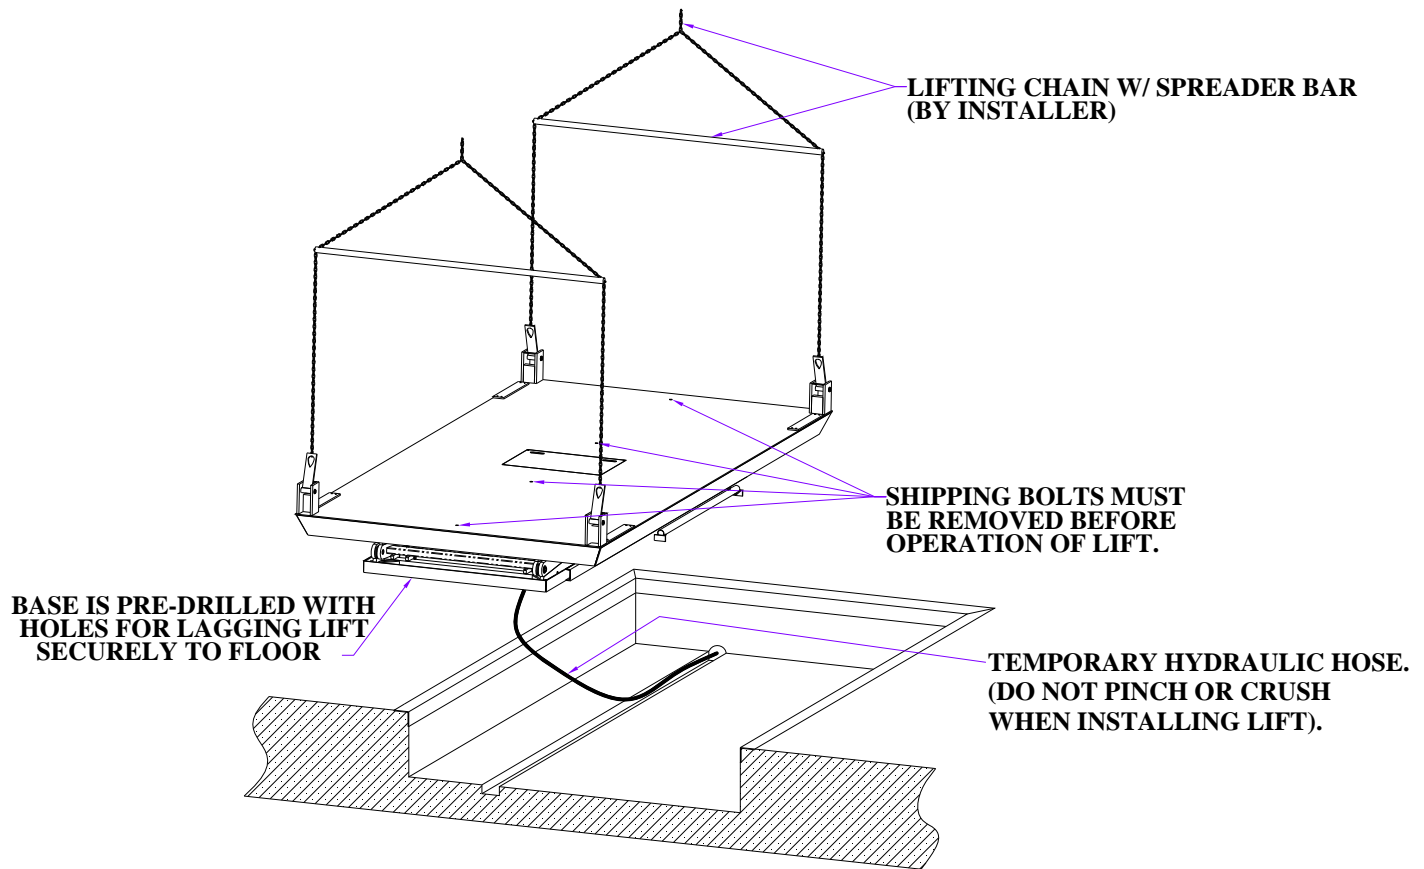

Figure 15 Generic Dwg - Lifting and Handling
C. LOWERING and INSTALLING THE LIFT (Reference Figure 15)
1. Using $\frac{3}{4}$ " 10 UNC eyebolts and a chain spreader, place the lift into the pit as illustrated in **Figure 15** using the lifting eye provisions included (lifting eyes by installer).